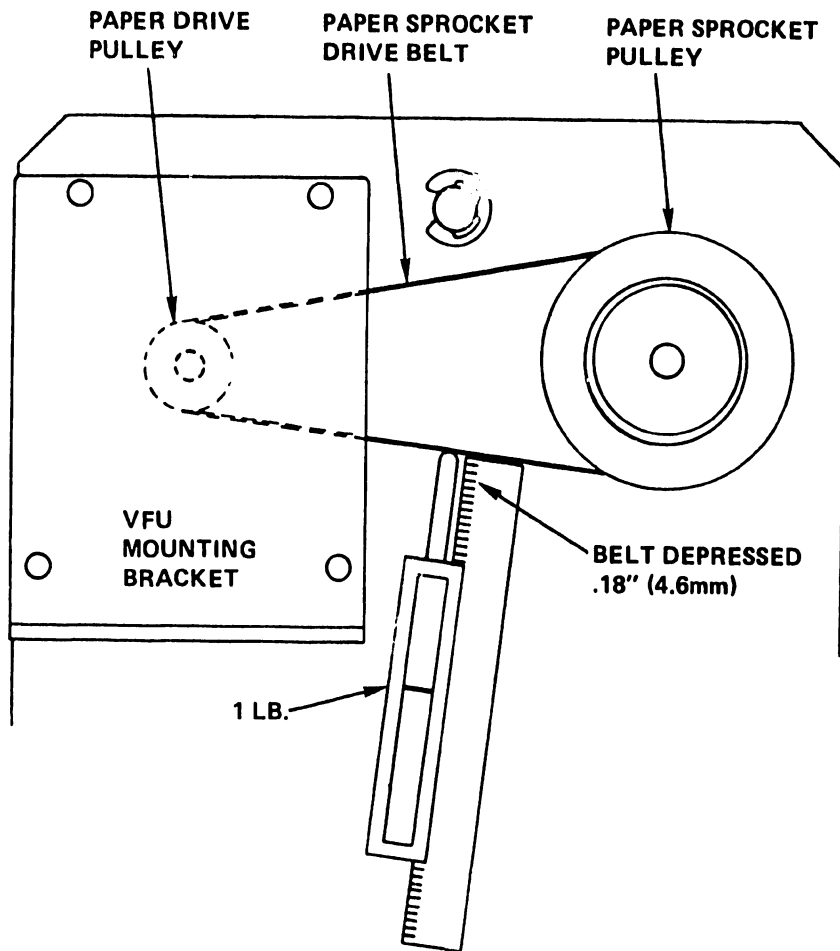

Figure 5-41. Paper Sprocket Drive Belt
1. Using a spring gauge and scale, deflect the middle of the paper sprocket drive belt .18" (.45 cm). The scale should read 1 lb. See Figure 5-41.